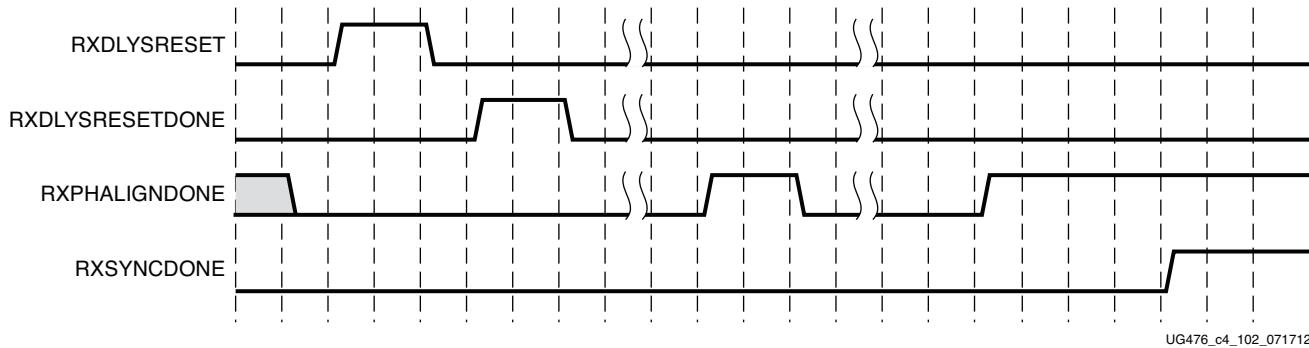

Figure 4-42: RX Buffer Bypass Example—Single-Lane Auto Mode (GTH Transceiver Only)
Figure 4-42 shows the required steps to perform the auto RX phase alignment and use the RX delay alignment to adjust RXUSRCLK to compensate for temperature and voltage variations.
Notes relevant to Figure 4-42:
1. The sequence of events in Figure 4-42 is not drawn to scale.